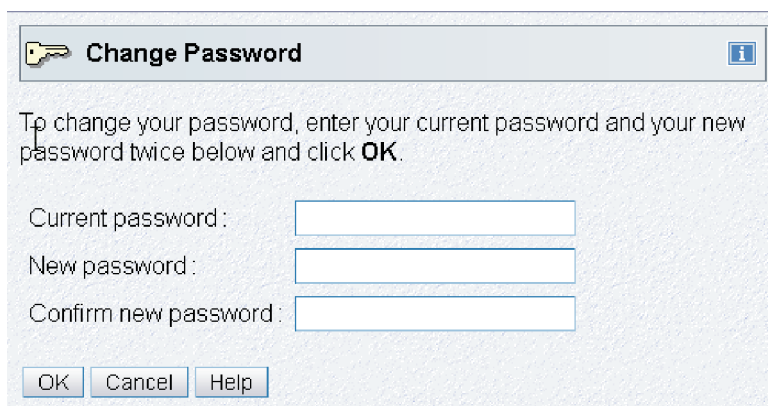

Figure 3. Context sensitive help not enabled
1. Click on the blue **i** that is displayed in the upper right corner of the task window (see Figure 3). Every time a new task window opens you need to click **i** to enable context sensitive help.